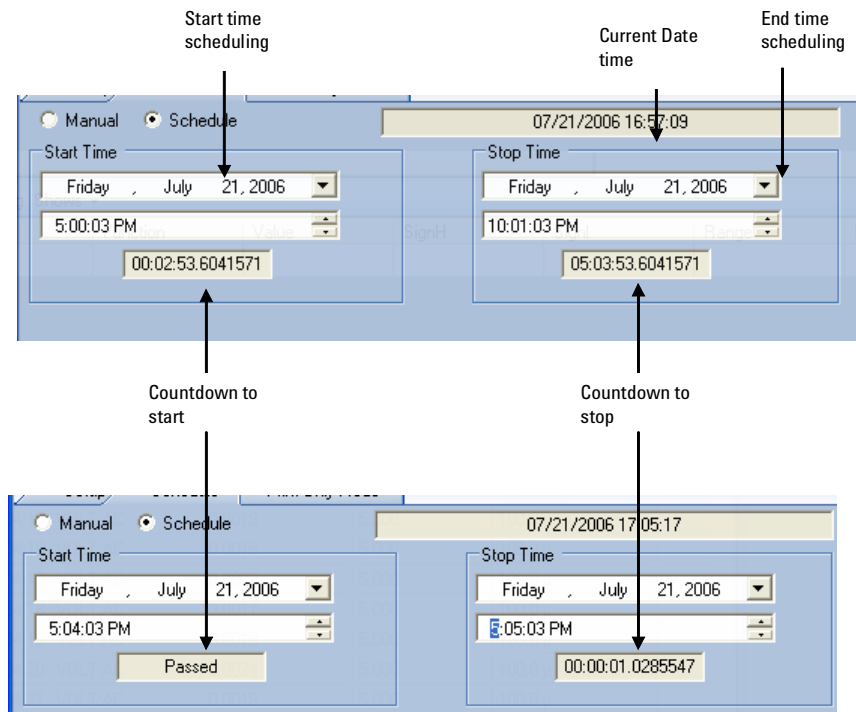

Figure C-6 Scheduling mechanism
- ✓ Besides manual log data, this GUI also provides scheduling mechanism. To activate auto scheduling, choose **Schedule** (figure C-6). Then, set the start and stop time preferred. When the scheduling mechanism activated, the manual data logging functions icon () will be disabled.